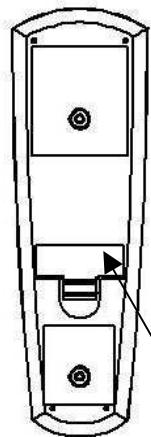

FIGURE 1
The remote control has a range of approximately 50ft. (15.25m), it does not have to be pointed at the fireplace and can pass through most obstacles (including walls). It is supplied with one of 2187 independent frequencies to prevent interference with other units. The frequency designation is indicated on the back of the transmitter (FIGURE 1).
6. Press ON button located on the remote control transmitter (FIGURE 1). This will synchronize the remote control transmitter and receiver.